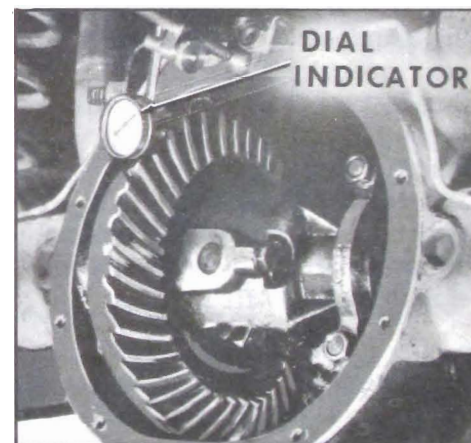

Figure 6-33—Checking Ring Gear To Pinion Backlash
1. Rotate differential case several times to seat bearings, then mount dial indicator as shown in Figure 6-33. Use a small button on indicator stem so that contact can be made near heel end of tooth. Set dial indicator so that stem is as nearly as possible in line with gear rotation and perpendicular to tooth angle for accurate backlash reading.